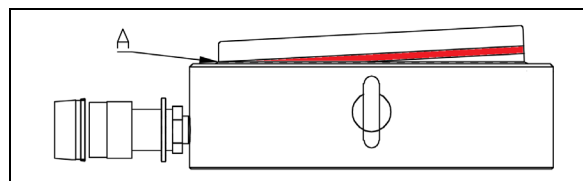

Figure 5, Maximum Stroke Indicator Line (A)
- If the plunger is tilted, the maximum stroke indicator line will be visible only on the **high side** of the plunger as shown in Figure 5. **Stop** advancing the plunger immediately when the **high side** of the indicator line becomes visible. **Do not** continue advancing the plunger so that the indicator line is completely visible.